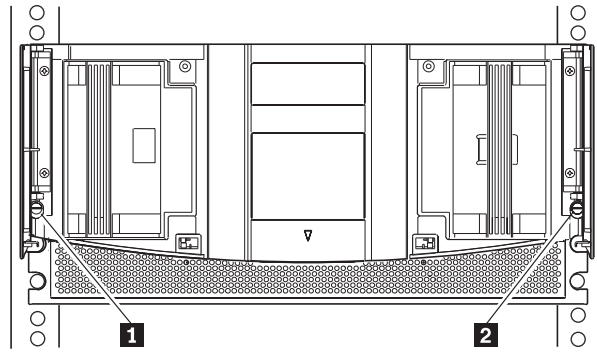

Figure 15. Retaining screws
7. With the doors open, attach the library to the rack using two 10-32 captive thumbscrews (located on the front panel inside the front doors). (See **1** and **2** in Figure 15 on page 15.)